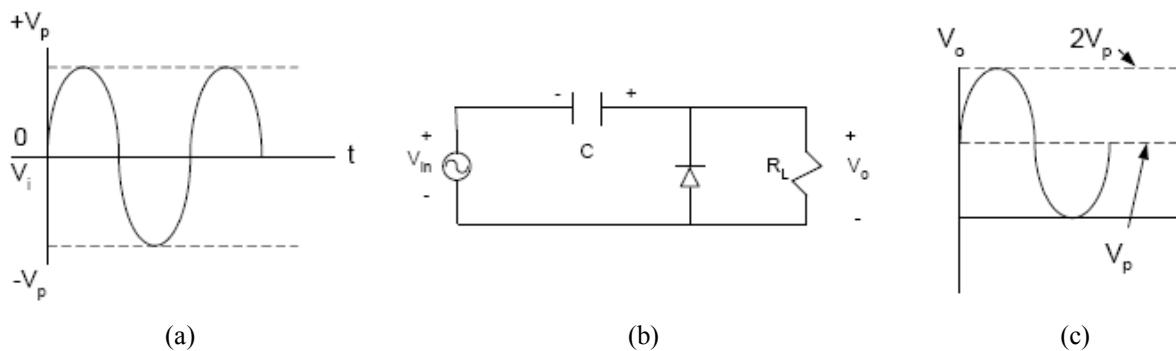
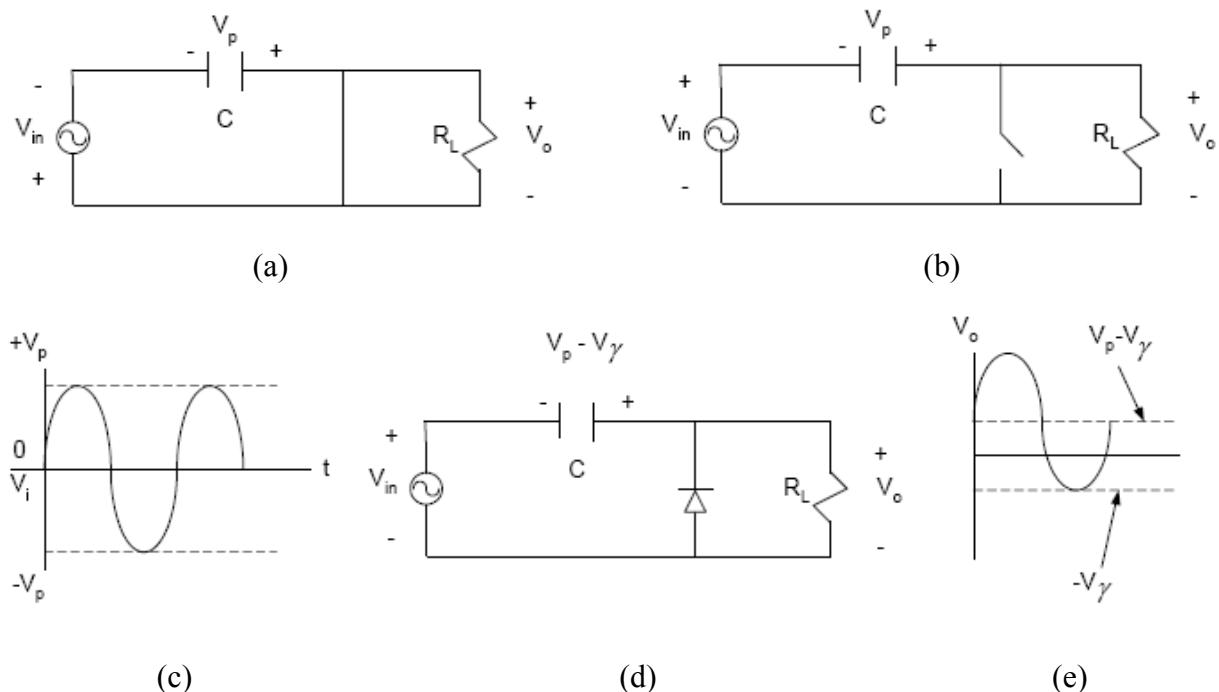
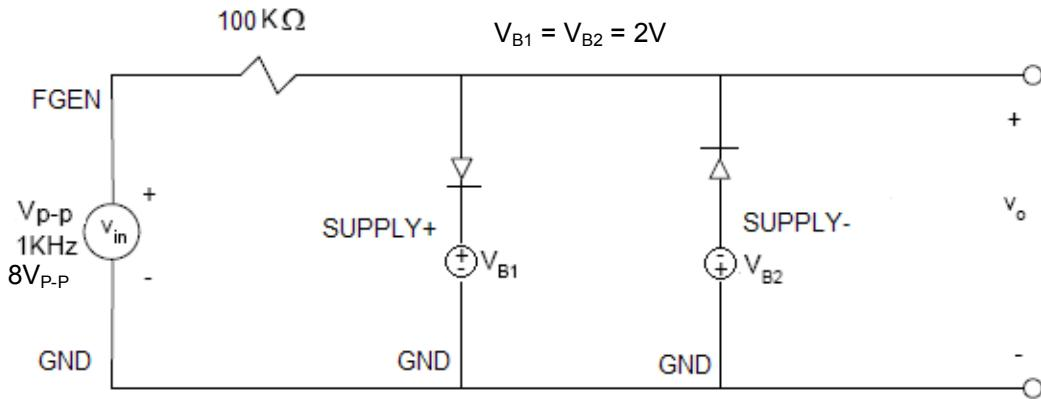

Figure 4.3: Positive dc clamer: (a) Sinusoidal input to positive dc clamer;
Figure 4.4: Positive clamping circuit operation
Figure 4.7: Parallel biased clipping circuit
The circuits to be tested and simulated are several clipper circuits and a clamper circuit. The clippers use a diode, resistor, and voltage source in 8 possible locations and orientations in a circuit. You should be familiar with the basic operation of clipper and clamper circuits as discussed in the text. You should be able to produce the output wave shapes shown for the circuits in Figures 4.1 through 4.7 below. You should simulate the circuits shown below in Figure 4.4(a), Figure 4.5(a), Figure 4.6 and Figure 4.7 using B2 Spice. (Assume $R_L = 1\text{k}\Omega$, $V_{\text{SIN}} = 8\text{V}_{\text{P-P}}$ and $V_B = 2\text{V}$)
In Figure 4.3(b) a positive dc clamer is shown. The clamer operates as follows: During the negative half-cycle of the input voltage, the diode turns on as illustrated in Figure 4.4(a). At the negative peak, the capacitor charges up to V_p with the polarity shown and the output voltage is zero. As the voltage grows beyond the negative peak, the diode shuts off as shown in Figure 4.4(b).
Since the diode drops V_γ volts when conducting, the capacitor voltage does not quite reach $+V_p$ volts. For this reason, the dc clamping is not perfect, and the negative peaks are at $-V_\gamma$ as shown in Figure 4.4(e).
When the polarity of the diode in Figure 4.3(b) is reversed, the polarity of the capacitor voltage reverses also, and the circuit becomes a negative dc clamer. Ideally, the output voltage consists of the input voltage riding on a dc voltage of $-V_p$ volts. If the diode is considered non-ideal, then the output will consist of the input signal riding on a dc voltage of $-(V_p - V_\gamma)$ volts, and the positive peaks will occur at V_γ volts.
It is possible to clip wave forms at two different voltages. The circuit shown in Figure 4.7 clips the waveform ideally at V_{B1} (SUPPLY+ = 2V) and V_{B2} (SUPPLY- = -2V). Make an accurate sketch of the input and output voltage waveforms for the circuit in Figure 4.7, noting the peaks of the output waveform and the input voltage at which clipping occurs. What would happen to the output wave shape if either V_{B1} or V_{B2} were changed continuously from 1V to 2V?
3. Parallel-Biased Clipper — Build circuit (Figure 4.7)